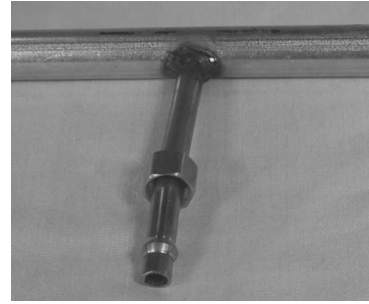

Figure 5
6. Slide the compression ring over the end of the burner pipe. See Figure 5.